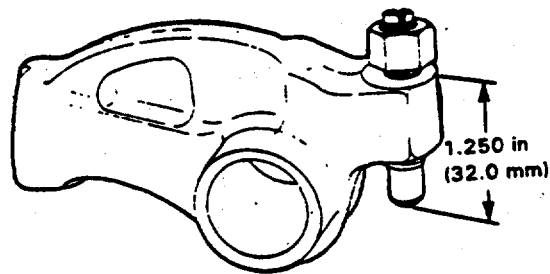

FIGURE 3-17. Rocker Lever Adjusting Screw.
- l. Loosen the rocker lever setscrews so there is a maximum of 1.259 inches (32 mm) from the top surface of the lever and the ball end of the adjusting screw (FIGURE 3-17).